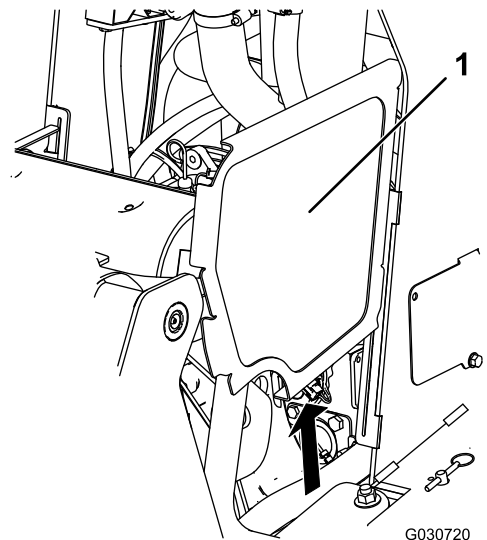

Figure 40
2. Slide the side screens (Figure 40) up and out of the slots in the front screen and frame.